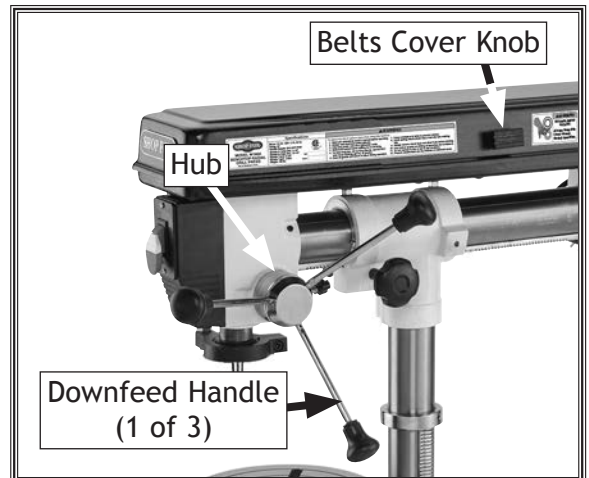

Figure 20. Downfeed handles thread into hub and belts cover installed.
- Thread the downfeed handles into the hub, as shown in Figure 20.
- Attach the belts cover knob to the belts cover with (1) #8 x 3/4" tap screw, (see Figure 20).